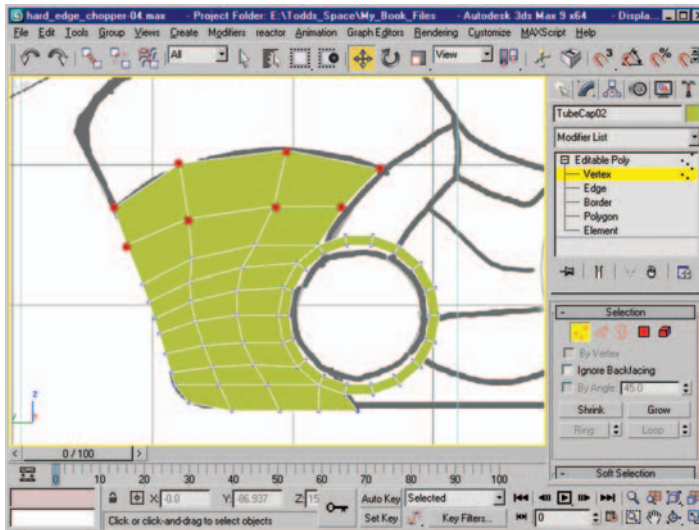

Figure 8.9 Mesh after moving vertices to match blueprint.
10. At the Vertex subobject level, move the new vertices created by the last step so they match the blueprint a bit better. Figure 8.9 shows the mesh after moving the vertices to their new locations.